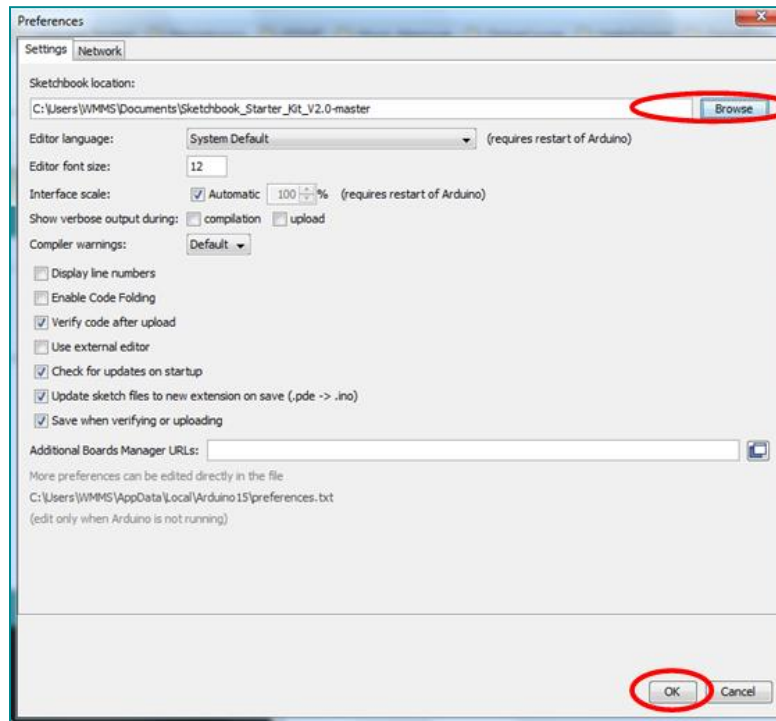

Figure 3-3. Locate the Sketchbook_Starter_Kit_V2.0-master folder.
4. Click **Browse**, locate the sketchbook folder you saved earlier, and click **OK** (see Figure 3-3).